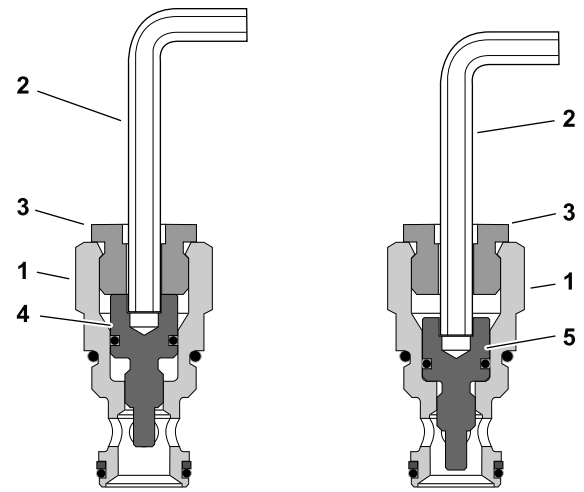

Figure 66
3. Set the plungers to the bypass position by inserting a hex wrench (6 mm) through the plug assembly and turning the plunger all the way in clockwise; refer to Figure 66. Repeat this step for each plug assembly (4 total).